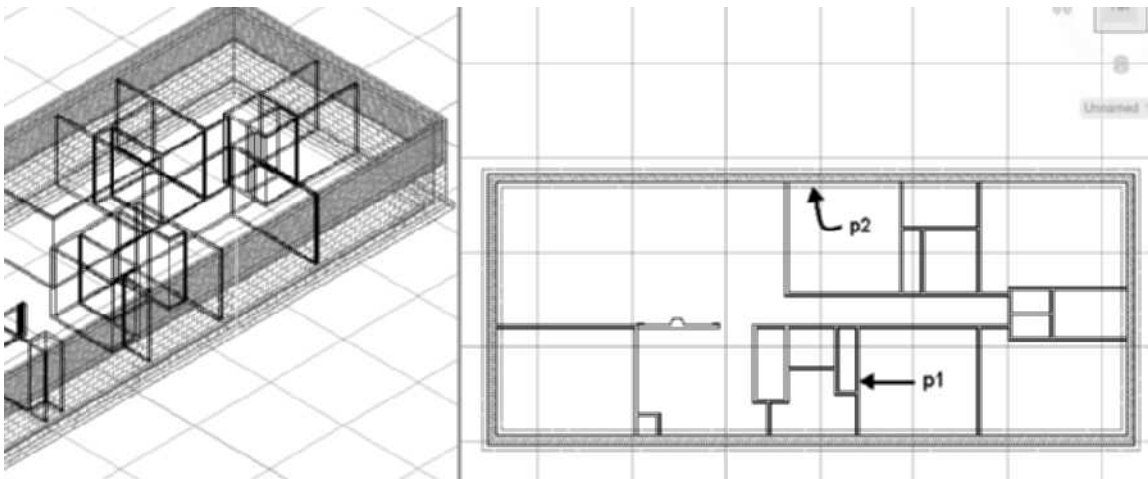

FIGURE 3.92 Selection of walls for *Intelligent Cleanup* command
23. In this step, you will begin the edit of the interior walls to create rooms for the basement. Select the wall at **p1** as shown in Figure 3.92, and choose *Intelligent Cleanup* from the *Modify* panel of the *Wall* tab. Respond to the workspace prompts to extend the wall **p1** to wall **p2** as shown in Figure 3.92
Select boundary wall for T-Cleanup or: Select wall at p2 as shown in Figure 3.92.